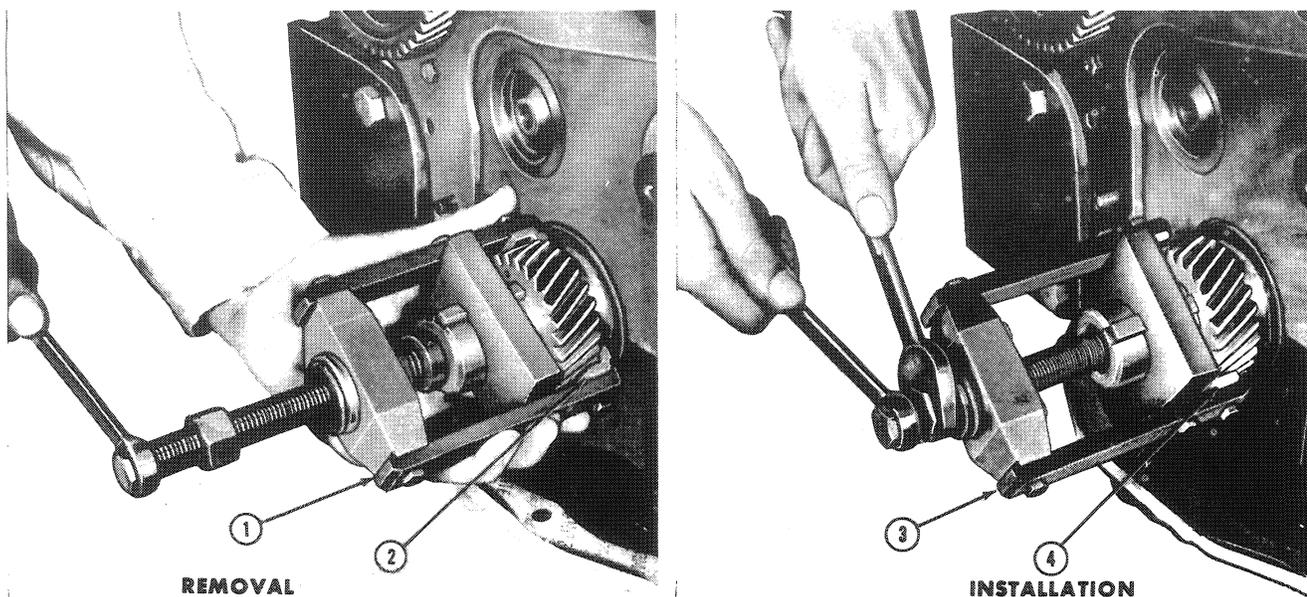

Figure 28
Remove the crankshaft gear with Crankshaft Gear Remover-Replacer, No. 1237 as shown in Figure 28.
2. Install the crankshaft gear with Crankshaft Gear Remover-Replacer No. 1237 as shown in Figure 28.